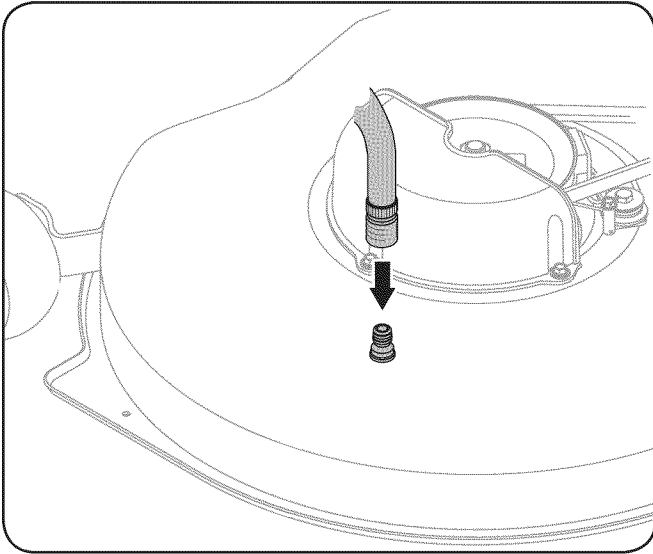

Figure 12
4. Attach the hose coupler to the water port on the deck's surface. See Figure 12.